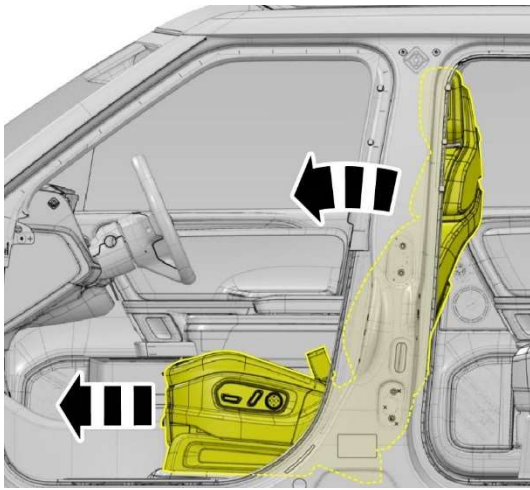

Figure 1
1. Position front seats in the farthest forward position with the seat backs tilted farthest forward. (Figure 1)